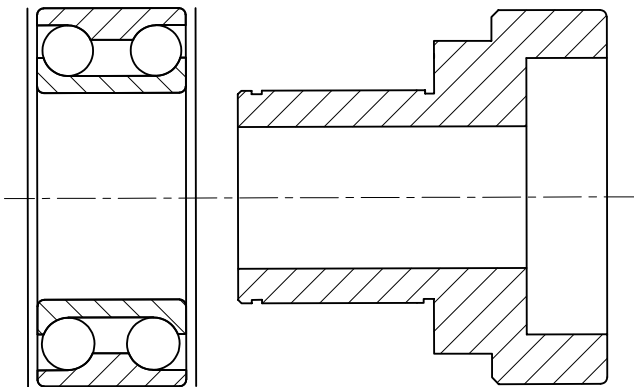

Figure 2-9 BEARING drawing automatically updated after loading the SHAFT drawing
4. Open the SHAFT drawing. In the **EXTERNAL REFERENCES** palette, you will notice that the message Needs reloading displayed in the **Status** column of the BEARING drawing. Right-click on BEARING and choose **Reload**; the BEARING drawing is automatically updated, refer to Figure 2-9. This is the most useful feature of external reference. You can insert the drawing as a block also, but in that case any modification made in the drawing will not reflect automatically in the drawing in which it is inserted.